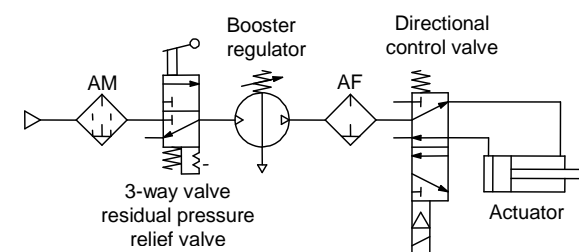

Fig.3 Circuit example (2)
- After exhausting the downstream piping, exhaust supply pressure at the booster regulator inlet side using the residual pressure relief valve upstream the booster regulator (see Fig.3). This will stop unnecessary operation and prevent malfunction